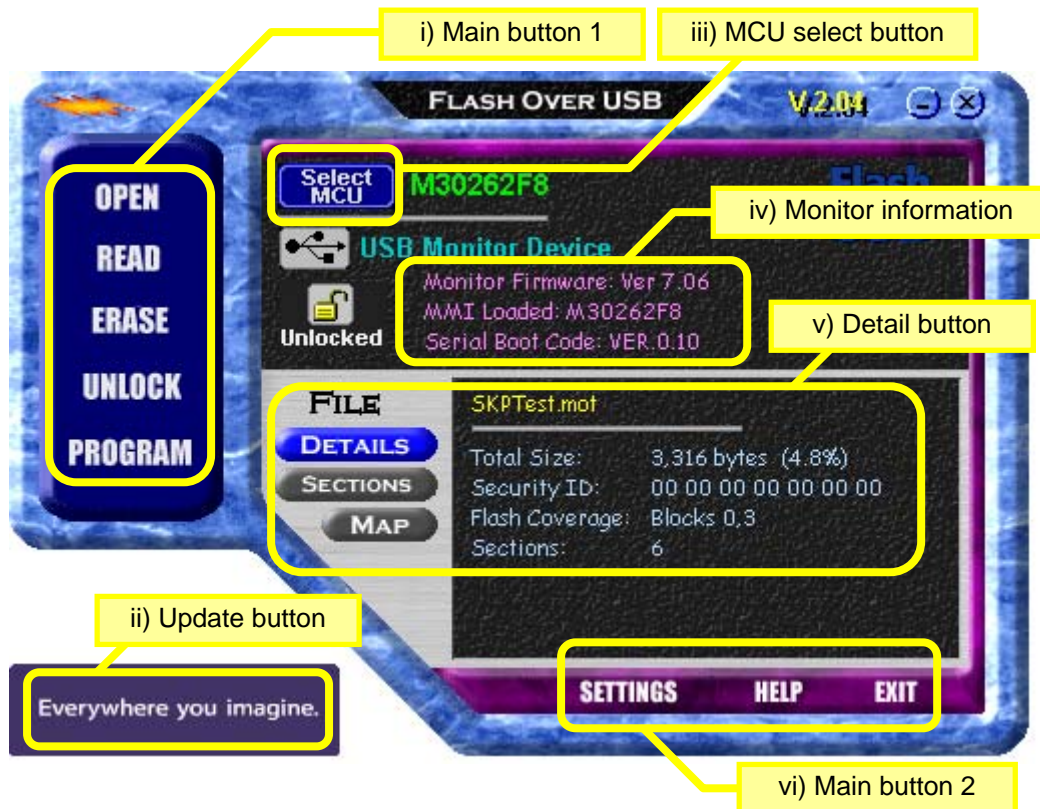

Figure 4-4 FoUSB main window
- 1) From the Start menu, choose Programs -- RENESAS-TOOLS – Flash-over-USB V.\*.\*\* -- FoUSB Programmer to start the FoUSB. When the FoUSB starts, the FoUSB main window shown in Figure 4-4 appears.